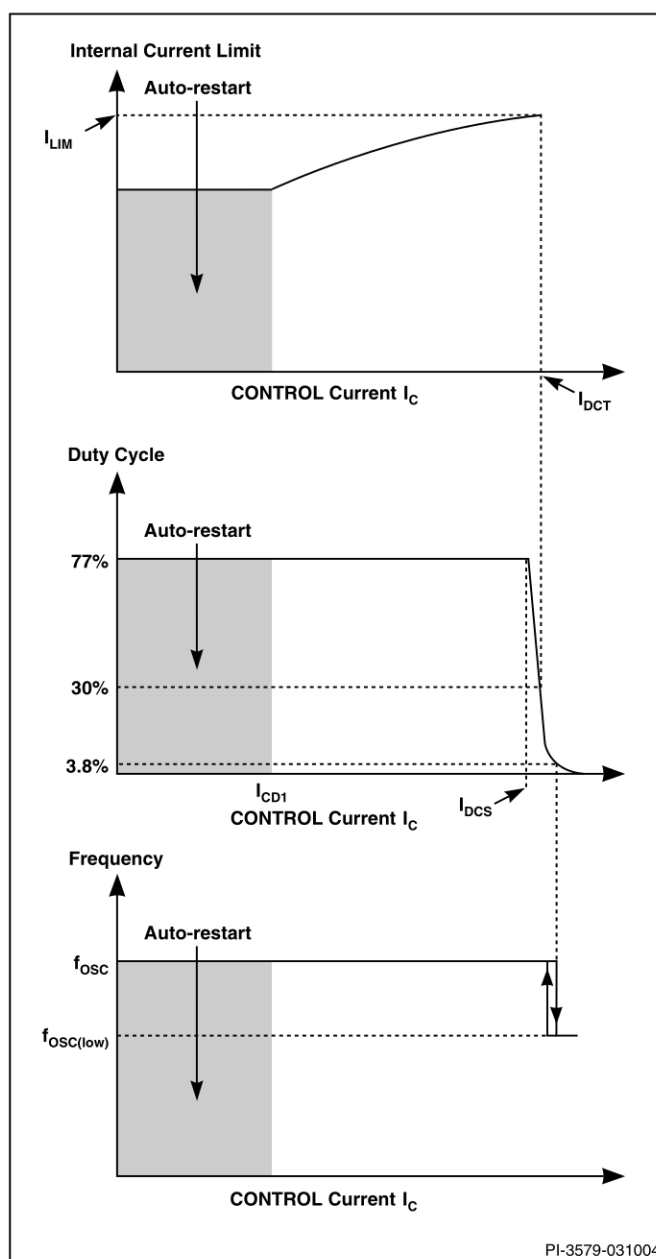
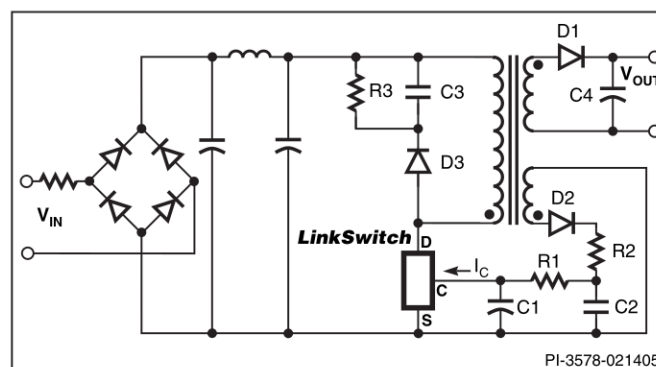
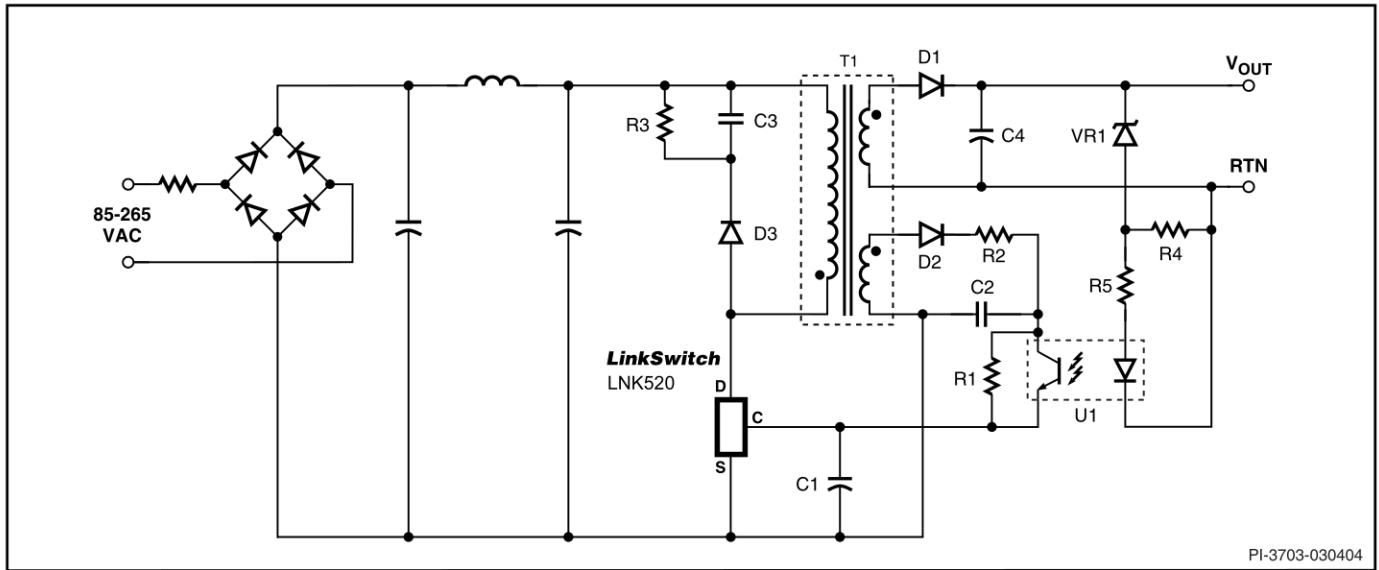

Figure 4. CONTROL Characteristics.
Figure 5. Power Supply Schematic outline.
Figure 6. Power Supply Schematic Outline with Optocoupler Feedback, Providing Tight CV Regulation.
The duty cycle, current limit and operating frequency relationships with CONTROL pin current are shown in Figure 4. Figure 5 shows a typical power supply schematic outline which is used below to describe the LinkSwitch operation.
During power up, as V_{IN} is first applied (Figure 5), the CONTROL pin capacitor C1 is charged through a switched high voltage current source connected internally between the DRAIN and CONTROL pins (see Figure 2). When the CONTROL pin voltage reaches approximately 5.6 V relative to the SOURCE pin, the high voltage internal current source is turned off, the internal control circuitry is activated and the high voltage internal MOSFET starts to switch. At this point, the charge stored on C1 is used to supply the internal consumption of the chip.
As the output voltage, and therefore the reflected voltage across the transformer bias winding ramp up, the feedback CONTROL current I_C flowing through R1 increases. As shown in Figure 4, the internal current limit increases with I_C and reaches I_{LIM} when I_C is equal to I_{DCT} . The internal current limit vs. I_C characteristic is designed to provide an approximately constant power supply output current as the power supply output voltage rises.
When I_C exceeds I_{DCS} , typically 2 mA (Figure 4), the maximum duty cycle is reduced. At a value of I_C that depends on power supply input voltage, the duty cycle control limits LinkSwitch peak current below the internal current limit value. At this point the power supply transitions from CC to CV operation. With minimum input voltage in a typical universal input design, this transition occurs at approximately 30% duty cycle. Resistor R1 (Figure 5) is therefore initially selected to conduct a value of I_C approximately equal to I_{DCT} when V_{OUT} is at the desired value at the minimum power supply input voltage. The final choice of R1 is made when the rest of the circuit design is complete. When the duty cycle drops below approximately 4%, the frequency is reduced, which reduces energy consumption under light load conditions.
Figure 6 shows a typical power supply schematic outline using LinkSwitch with optocoupler feedback to improve output voltage regulation. On the primary side, the schematic only differs from Figure 5 by the addition of optocoupler U1 transistor in parallel to R1.
When the power supply operates in the constant current (CC) region, for example at start up and when charging a battery, the output voltage is below the voltage feedback threshold defined by U1 and VR1 and the optocoupler is fully off. In this region, the circuit behaves exactly as previously described with reference to Figure 5 where the voltage across C2 and therefore the current flowing through R1 increases with increasing output voltage and the LinkSwitch internal current limit is adjusted to provide an approximate CC output characteristic.
When the output reaches the voltage feedback threshold set by U1 and VR1, the optocoupler turns on. Any further increase in the power supply output voltage results in the U1 transistor current increasing. The resulting increase in the LinkSwitch CONTROL current reduces the duty cycle according to Figure 4 and therefore, maintains the output voltage regulation.
At very light or no-load, typically less than 2 mA of output current, the output voltage rises due to leakage inductance peak charging of the secondary. This voltage rise can be reduced with a small preload with little change to no-load power consumption. The output voltage load variation can be improved across the whole load range by adding an optocoupler and secondary reference (Figure 6). The secondary reference is designed to only provide feedback above the normal peak power point voltage to maintain the correct constant current characteristic.